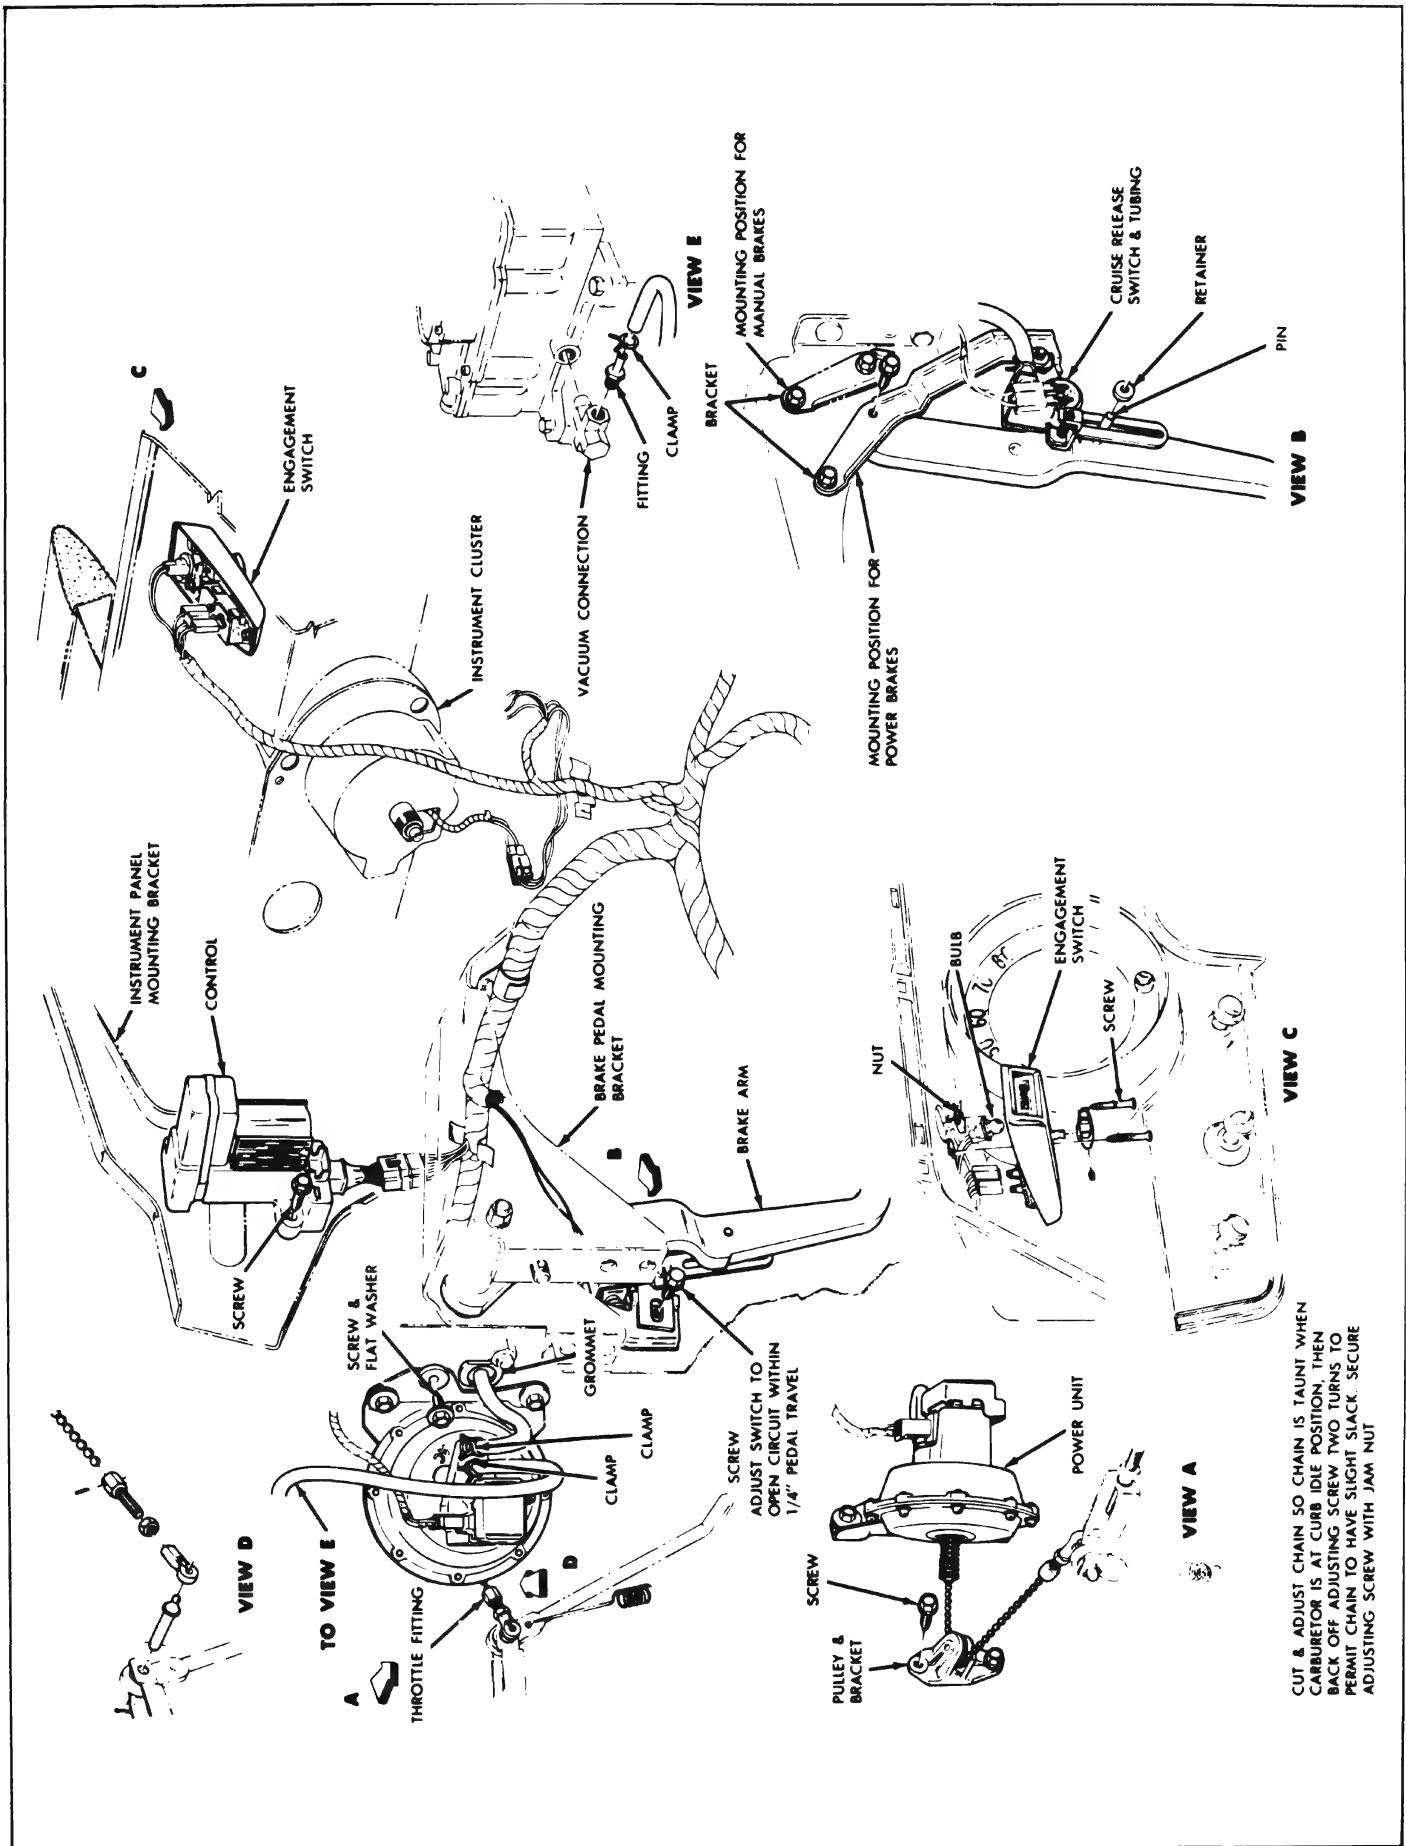

Figure 11-177—Electro-Cruise Installation - 4400, 4600 and 4800 Series
1. Disconnect bead chain adapter assembly from clevis pin by snapping it free from clevis pin. See figures 11-177 and 11-178.
1. Disconnect the bead adapter chain attached to the clevis pin by snapping it free from clevis pin. See figures 11-177 and 11-178.
IMPORTANT: Check all vacuum hoses for proper attachment at vacuum source, power unit and brake release switch. See figures 11-177 and 11-178.